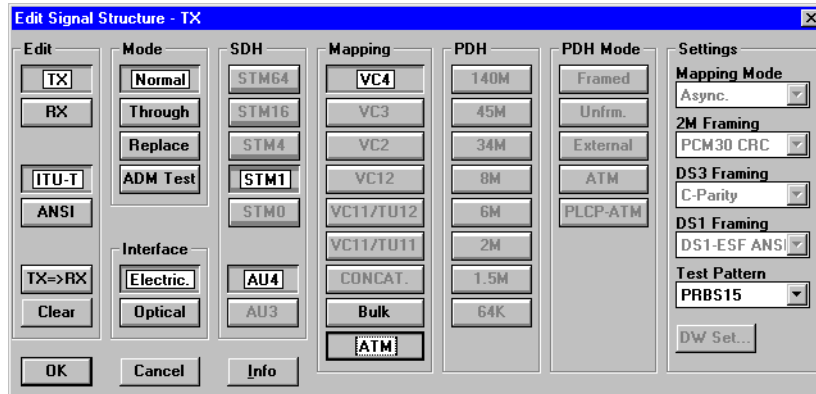

Fig. A-3 The “Edit Signal Structure” dialog (“Signal Structure” VI)
- The “Signal Structure Editor” dialog opens (see Fig. A-3).